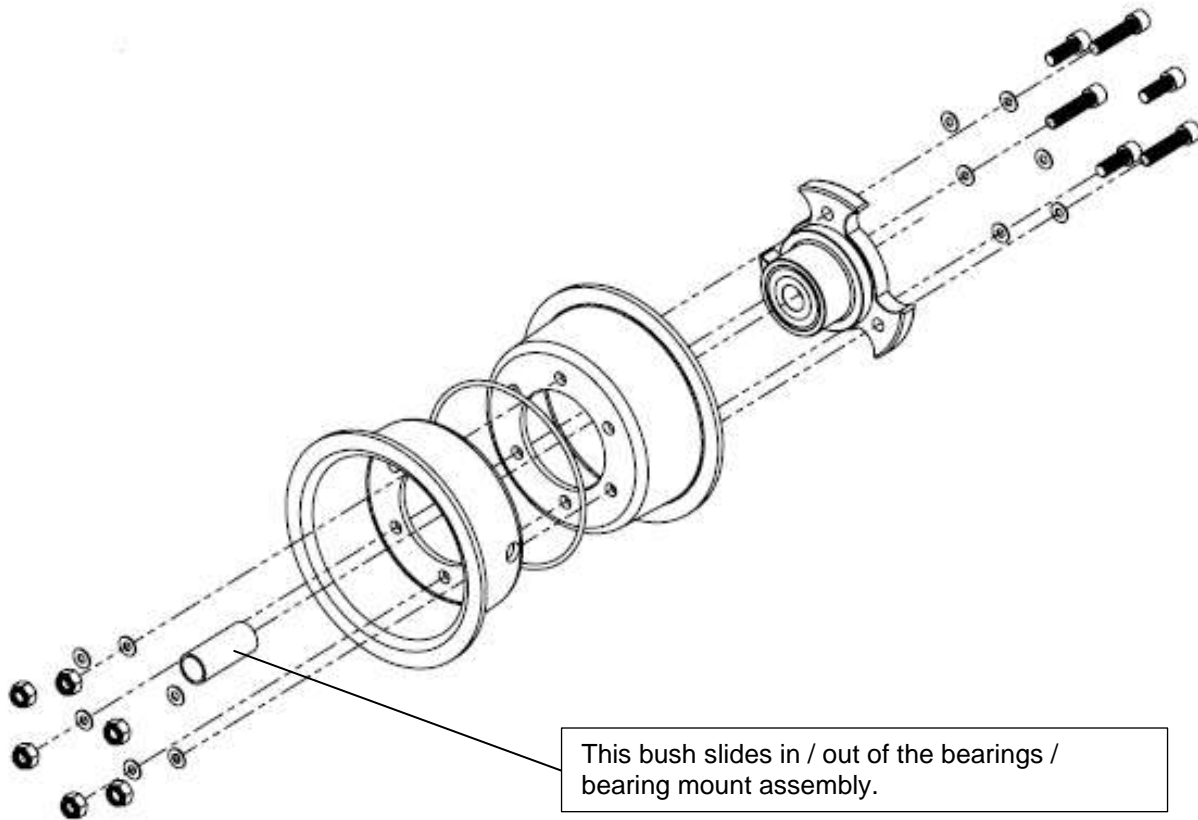

Figure 44: Front wheel hub assembly.
2. Push out the inner bush (refer to Figure 44).
3. Insert the bush (refer to Figure 44).